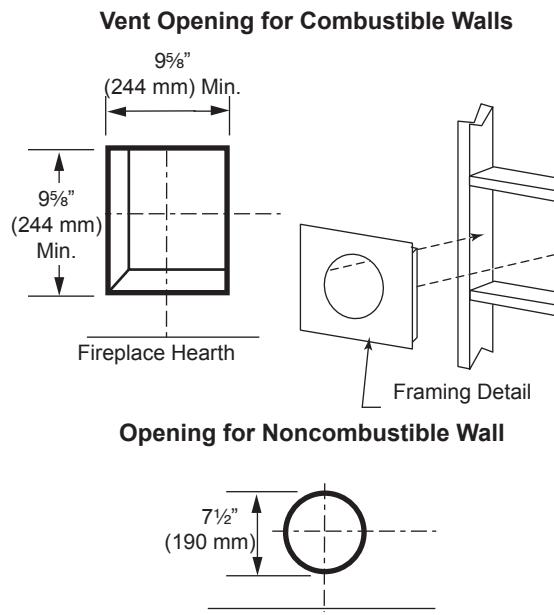

Figure 27 -
Locate vent opening on the wall. It may be necessary to first position the fireplace and measure to obtain hole location. Depending on whether the wall is combustible or noncombustible, cut opening to size. *Figure 27* (For combustible walls first frame in opening.)
Combustible Walls: Cut a 9 $\frac{5}{8}$ "H x 9 $\frac{5}{8}$ "W (244 x 244 mm) hole through the exterior wall and frame as shown. *Figure 27*
1. Establish vent hole through the wall. *Page 19, Figure 27*